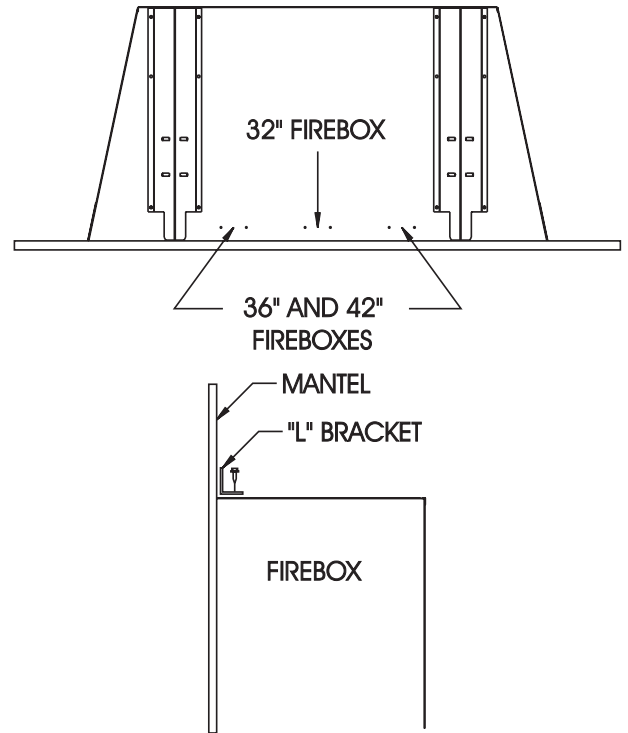

Figure 5
- Attach L-bracket to top of firebox to secure mantel to firebox (2 screws per bracket). Figure 5